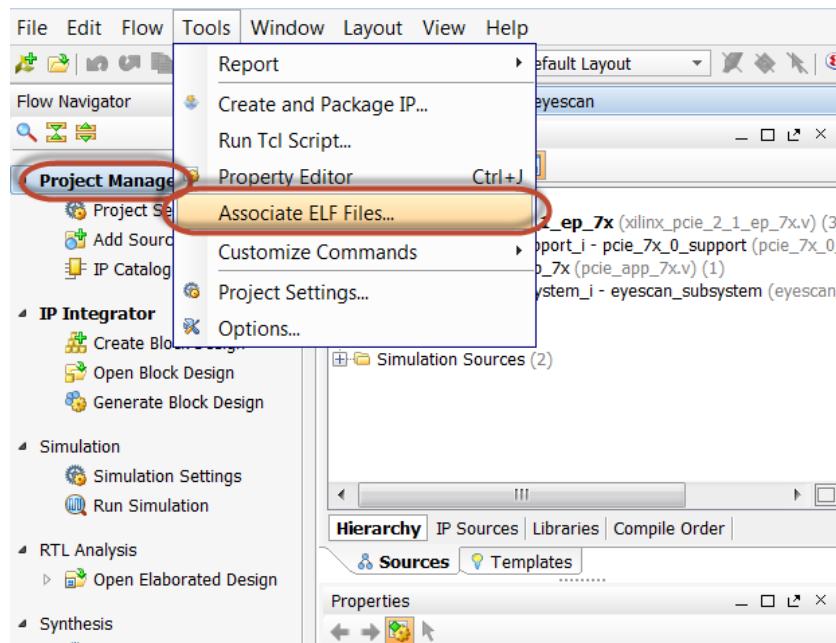

Figure 19: Associating ELF Files to MicroBlaze Part 1
12. After modifying the ELF, include the ELF in Vivado project (**MicroBlaze only**). To perform this, make sure to be in the Project Manager view and go to **Tools > Associate ELF Files** (Figure 19).